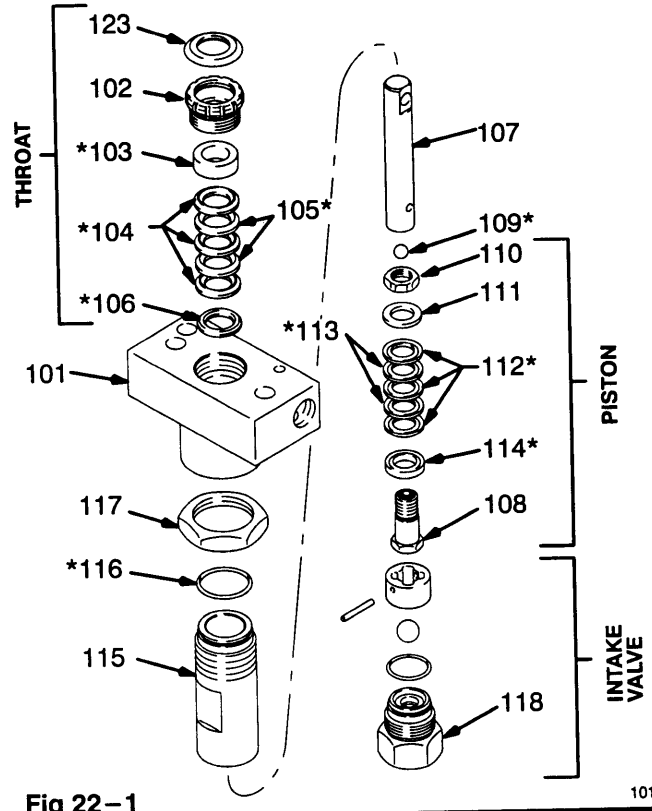

Fig 22-1
(See Fig 22-1 except where noted)
1. Remove the intake valve (118). See page 21.
2. Unscrew the packing nut (102) and plug (123).
3. Use a plastic mallet to tap the piston rod (107) down, and then pull the rod out through the bottom of the cylinder.
5. Loosen the jam nut (117). Remove the cylinder (115) and the o-ring (116*).
6. Clamp the flats of the piston rod in a vise. Use an open-end wrench to loosen the retaining nut (110) and then unscrew the piston valve (108) from the rod (107). See Fig 22-1.
7. Remove all parts from the piston valve (108).
NOTE 1: Alternate plastic and leather packings. See Fig 22-1. The lips of the throat V-packings face down, against pressure. The lips of the piston V-packings face up, against pressure. Incorrect installation damages the packings and causes pump leaking.